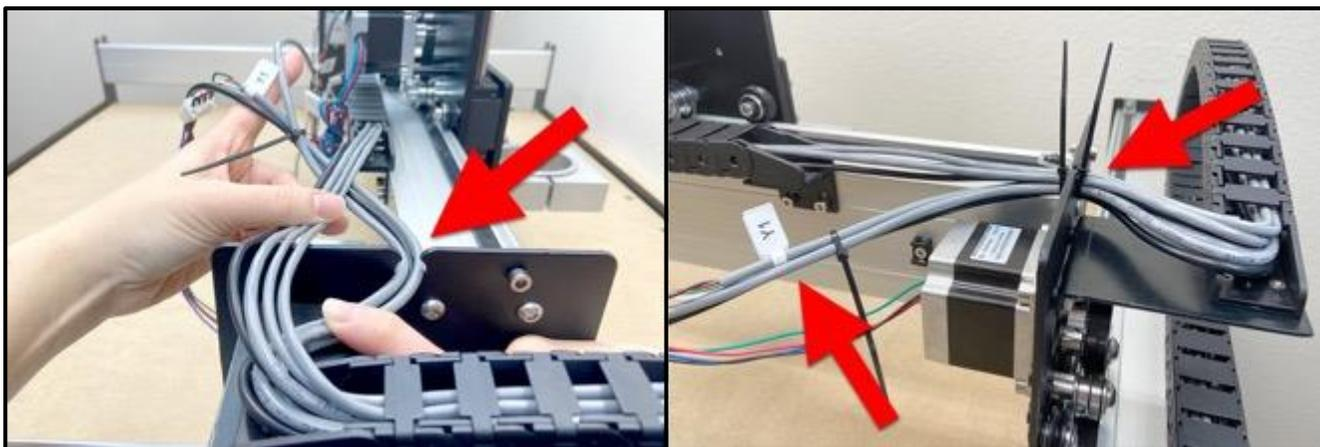

Figure 9-4
1. One at a time insert the cables, beginning with the three Y-cables, followed by the four X/Z-cables. See *Figure 9-4*.
2. Use two (2) cable ties, one on each side of the cutout, to secure the cables in place as shown in *Figure 9-4*.